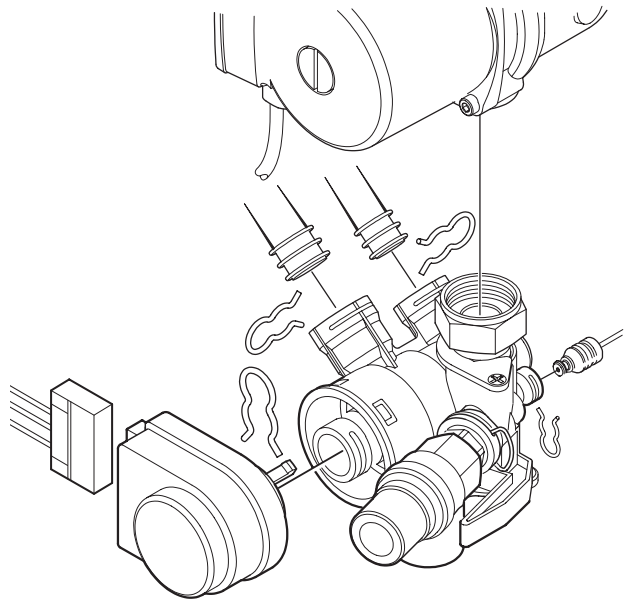

Fig. 59
- Unplug connector from 3-way valve motor. Refer to fig. 59.
- ▶ Disconnect the capillary head from the rear of the diverter valve by withdrawing the clip and pulling out the head. Refer to fig. 59.